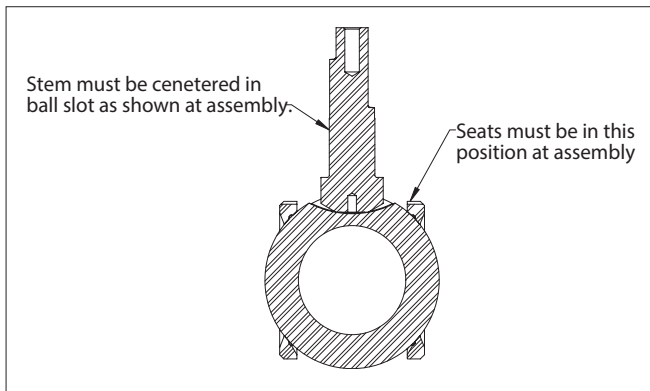
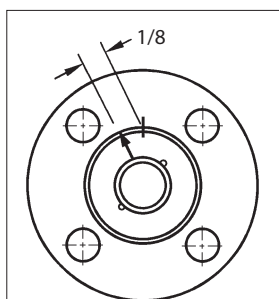

Figure 3. Proper Seat and Ball Orientation
Figure 7.
3. Carefully clean and polish the ball (3) sealing surface. It should be free of all scratches and grooves.
5. Secure body (1) with body joint opening facing up.
6. Slide one valve seat (7) sideways into the body (1) to below the stem bore, and tilt it into place so that the proper surface (see **Figure 3**) will be adjacent to the ball (3), being careful not to cut or scratch the seat.
12. Place the valve in a vertical position, body joint up, on a clean soft surface such as a folded rag or piece of cardboard. Insert bottom grounding spring (36) into the hole at the bottom of the stem (5). Insert the ball (3) rotating it onto the stem (5) in the closed position. If necessary, turn the stem blade to align with the ball slot. Make certain that the stem blade is in the middle of the ball slot; i.e. equal distance from the ends of the slot. Rotate the ball if necessary (see **Figure 3**). Rotate the ball if necessary (see **Figure 3**).
13. Place the second seat (7) into the insert (2) with the proper surface adjacent to the ball (see **Figure 3**).
14. Gently place the body gasket (65) into the machined recess of the body (1).
15. Apply a lubricant compatible with the tank car commodity to the insert threads and screw the insert into the body. The tightening of the insert should be done using the insert field wrench. The insert must be tightened the same number of turns as in Step 11, insuring that the marks are no more than 1/8" (3.18 mm) apart, as shown in **Figure 7**.
16. Place the indicator stop (32) with "BTM" making facing down, over the stem so that the longer part is over the body.
17. Place the spring (33) over the stem (5) with the larger diameter contacting the indicator stop (32).
18. Compress the spring (33) and hold down by putting the retaining ring (34) in the groove in the stem (5).